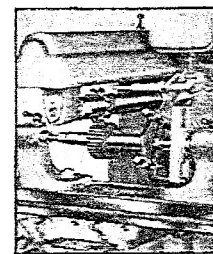
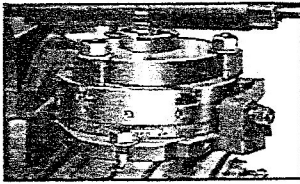
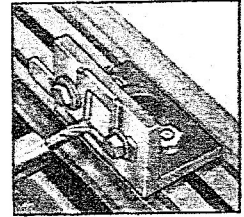

Fig. 16
Fig. 20
Fig. 24
8. **GEAR CUTTING:**—For gear cutting operations (see fig. 16), formed gear cutters are used. The shape of the cutter teeth, of course, depend upon the pitch of the teeth which are going to be cut. The index centers attachment is recommended for this milling operation. See catalog.
The following attachments are also available: Index Centers, used for splining, fluting, gear cutting and squaring shafts (see figs. 16 and 21); Rotary Index Table, for angular indexing and spacing (see fig. 20); and Angle Plate, which holds work which cannot be gripped in the vise or bolted to the table (see fig. 24.)